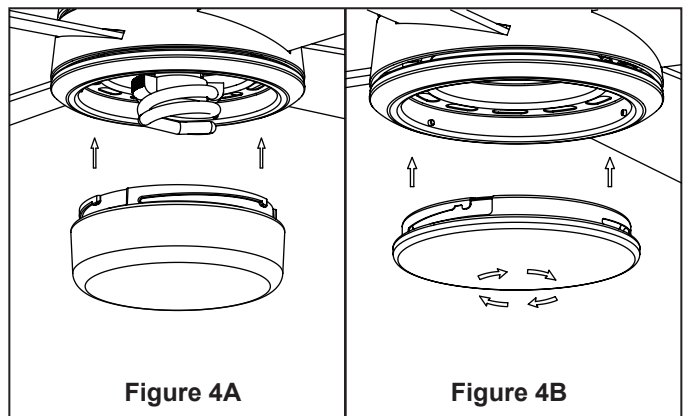

Figure 4A
4. Securely attach Lower Glass by twisting clockwise onto the Support Light Kit Assembly. Don't overtighten or force it. (Figure 4A)